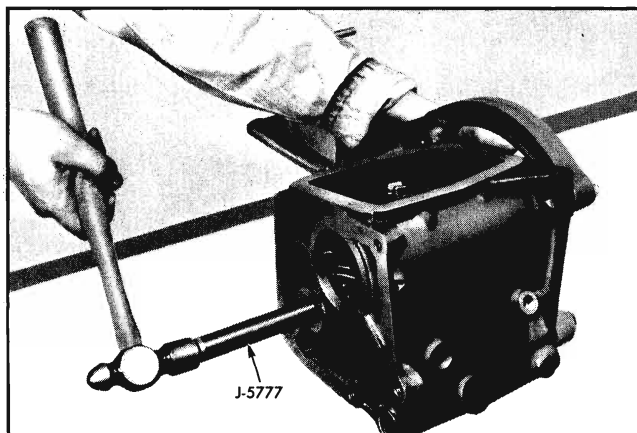

Fig. 7-34 Removing Countergear Shaft
16. Remove countergear and thrust washers by driving countergear shaft out from front of case with tool J-5777 (Fig. 7-34).